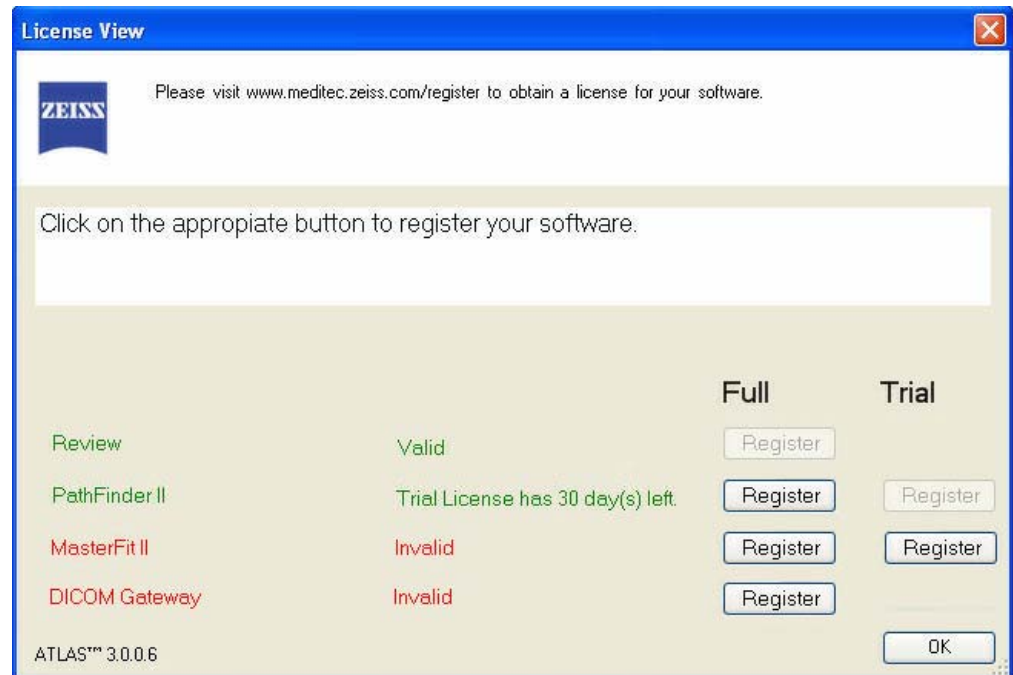
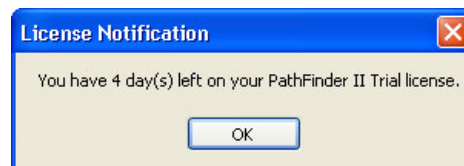

Figure 16 License View Window – PathFinder II 30-Day Trial License Registered
Figure 17 License Notification Dialog
- Click **Yes** to start your 30-Day Trial license. The LICENSE VIEW window will be displayed with Trial license registered (Figure 16).
- You have 30 days from the date of registering to continue using the software. The number of days left in your Trial license is shown on the LICENSE VIEW window (Figure 16). When the number of days left is seven or less, you will be notified at application startup with a dialog such as shown in Figure 17 below: